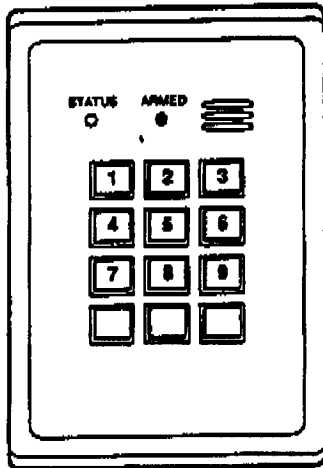

Figure 1: D269 Keypad
- 1) Press the *center bottom blank key* once (see Figure 1).